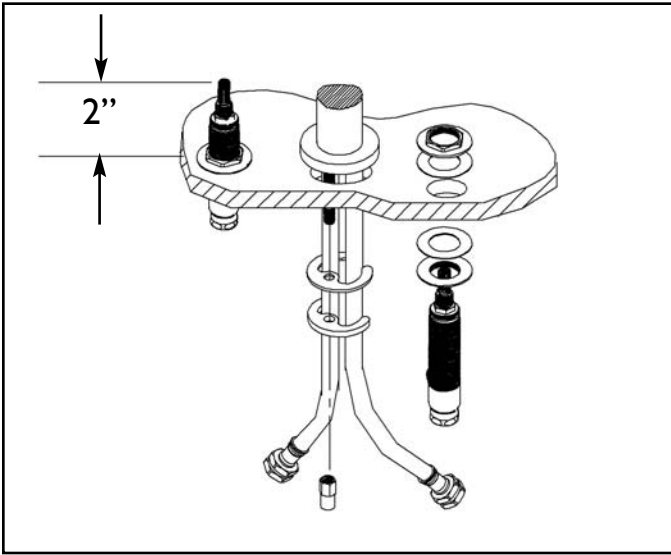

Figure 1
1. Place the spout's threaded rod and hoses through center hole of mounting surface. Secure spout into place with rubber gasket, mounting crescent and nut. See Fig. 1
2. Place nut & washer on valve body. Insert body, (blue cold & red hot), through hole in the mounting surface. Adjust and secure with additional washer and nut so that the top of valve is 2" above the top of mounting surface. See Fig. 1